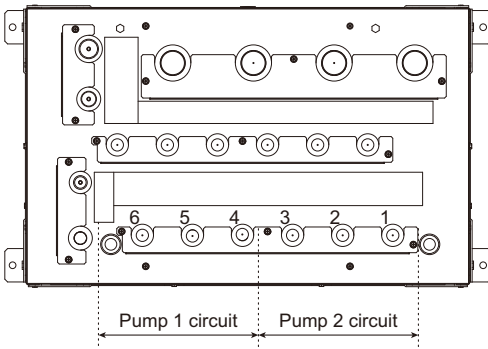

Fig. 11-3-1B
- When the junction pipes are connected to Main-HBC, the branched sides of the junction pipes cannot be connected to the ports "3 and 4" at the same time. (See Fig. 11-3-1B.)